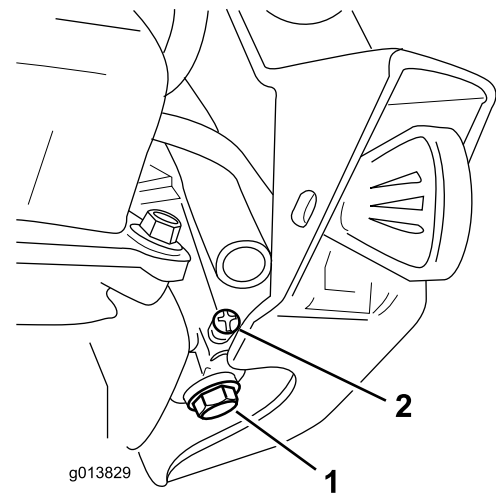

Figure 33
- B. Unscrew, but do not remove, the small screw on the side of the carburetor fuel bowl (Figure 33) until the fuel begins to drain from the carburetor. Drain the fuel into an approved fuel container.